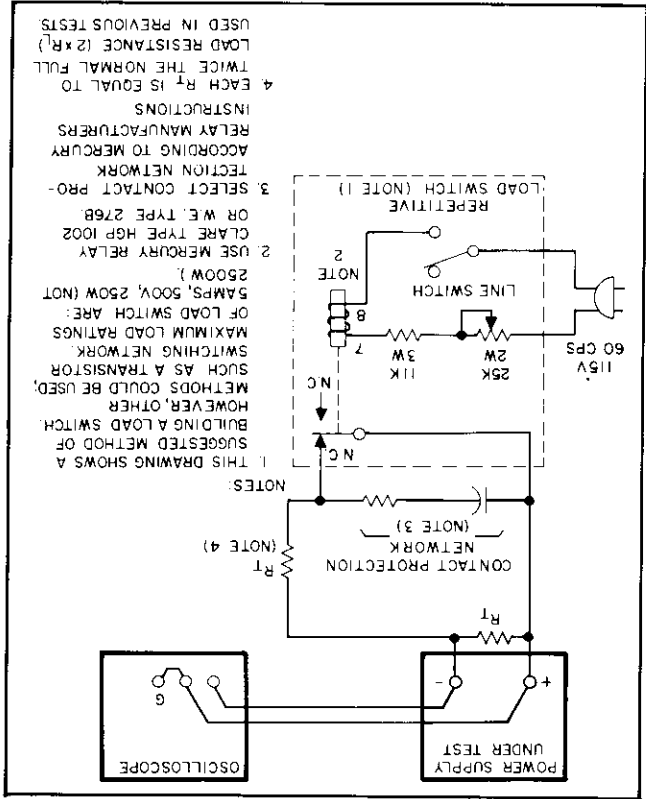

Figure 5-5. Load Transient Recovery Time, Test Setup
current changes are to be achieved. Instead, a mercury-wetted relay should be used for loading and unloading the supply. Connect it in the load switching circuit shown in Figure 5-5. When this load switch is connected to a 60 Hz ac input, the mercury-wetted relay will open and close 60 times per second. The 25K control adjusts the duty cycle of the load current switching to reduce jitter in the oscilloscope display. This relay may also be used with a 50 Hz ac input.
a. Connect the test setup shown in Figure 5-5. Both load resistors (R_T) are twice the normal value of a full load resistance.